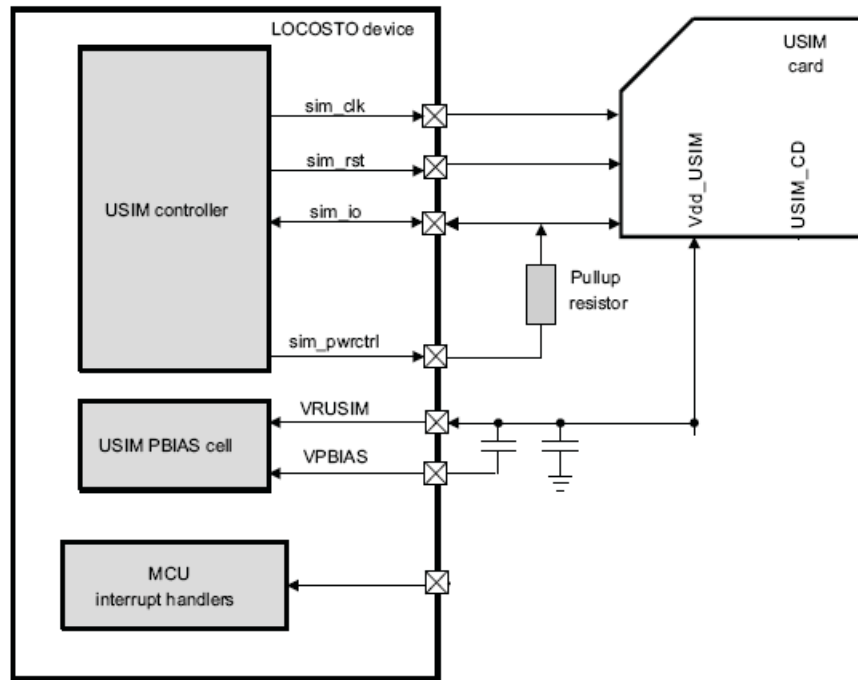

Figure 14: SIM interface
**CCS-6003** can be programmed to provide image output in various fully processed and Automatic image function include AEC, AGC, AWB... and image quality control such as color saturation, hue, gamma, edge enhancement functions. Also the Figure 14 has shown the pin connections of camera module. The functions of those pins between the camera module and **Locosto** are described as the following: